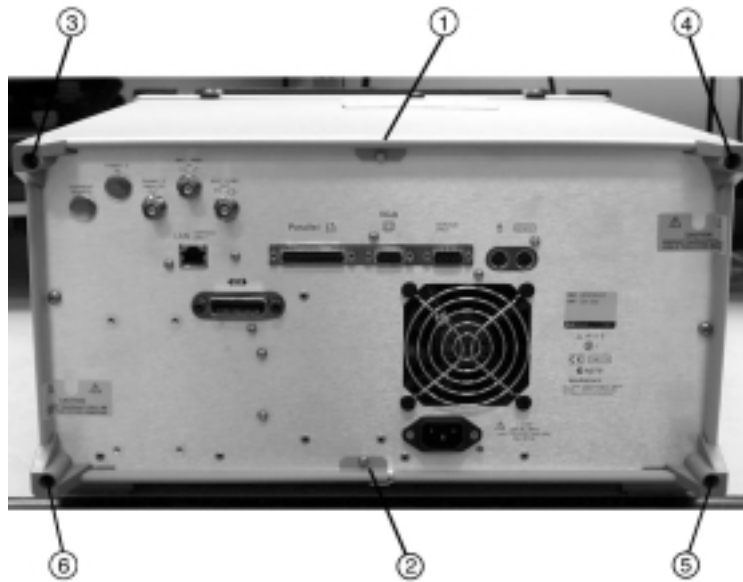

Figure 3-3. Removing the rear feet
- 3 Use a T-10 TORX driver to remove the two screws that fasten the instrument cover to the rear panel assembly. See ① and ② in Figure 3-3 below.
- 4 Use a T-15 TORX driver (or a T-20 TORX driver in newer models) to remove the screws that secure the four bumper feet to the rear panel. See ③ through ⑥ in Figure 3-3 below.
- 2 Use the 4-mm hex driver to loosen but not remove the four screws that fasten the rubber feet through the instrument cover to the rear panel assembly. See ① through ④ in Figure 3-3 below.
- 3 Use the T-10 TORX driver to remove the four screws that fasten the cover to the instrument chassis. See ⑤ through ⑧ in Figure 3-3 below.